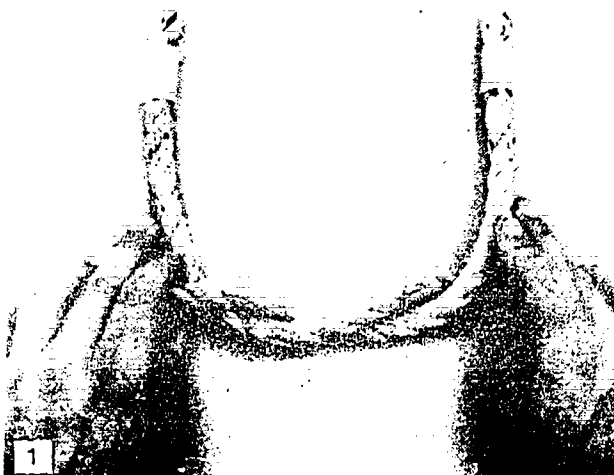

Figure 7-5. Tying a Square Knot
1. The **square or reef knot** (Figure 7-5) is used for tying together two ropes of the same size, or for tying together the ends of a short rope to make a temporary endless sling. Properly tied, a square knot will not slip when the rope is dry and has 50% of the rope strength.